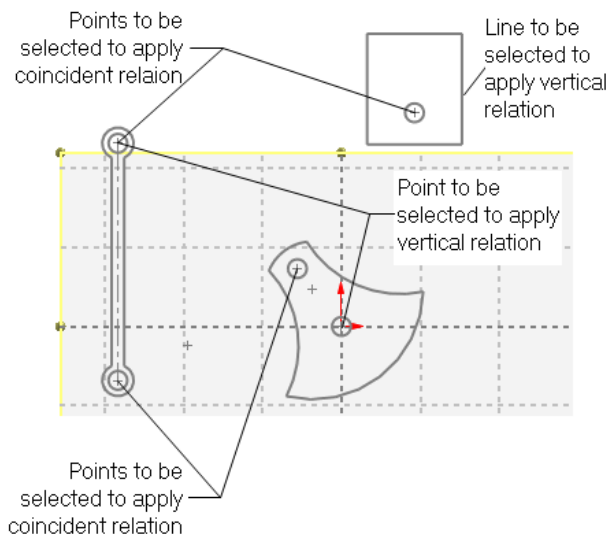
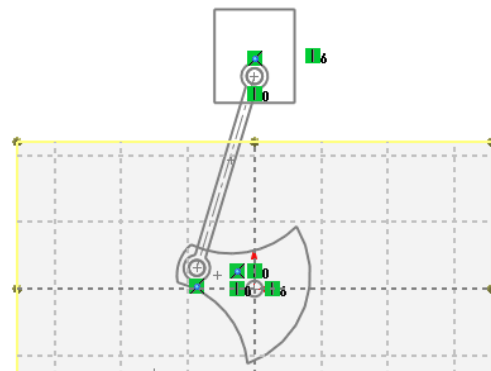

Figure 2-33 Points selected to apply the relations
Figure 2-34 Blocks after applying the required relations
3. Next, apply the relations, as shown in Figure 2-33. Figure 2-34 shows the blocks after applying the required relations. Now, the blocks act as a reciprocating mechanism.